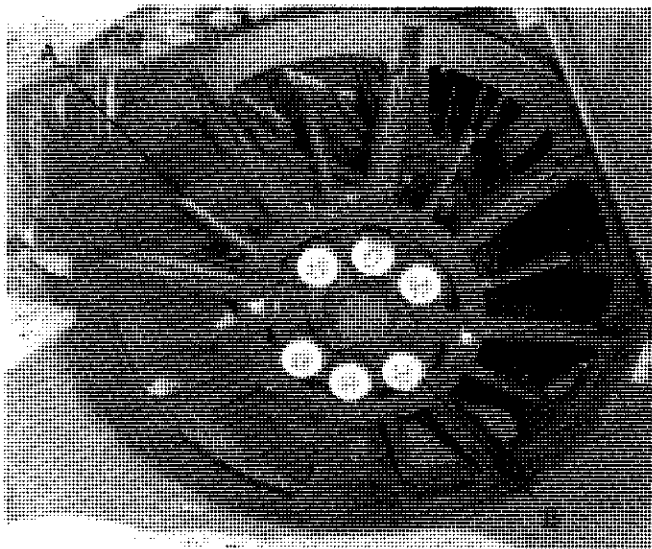

FIGURE 24 - CLOSE-UPS
Optional wheel close-ups (A) are available to prevent small beets from falling out between the lifter wheel spokes. Slots are provided in close-ups to allow rotating them out of the way when conditions warrant (see figure 24).
when rocks are pinched between the wheels. The cushions are recommended where many small (baseball size) rocks are in the field. If large rocks are also present, the addition of flex struts is recommended (see figure 24).